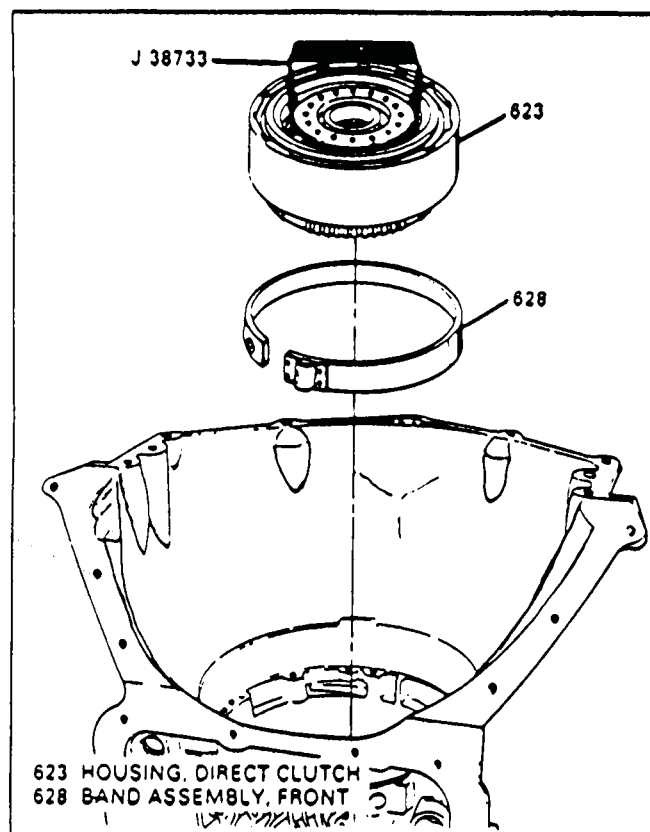

Figure 79
9. Use tool J-38733, as shown in Figure 79 for installation.